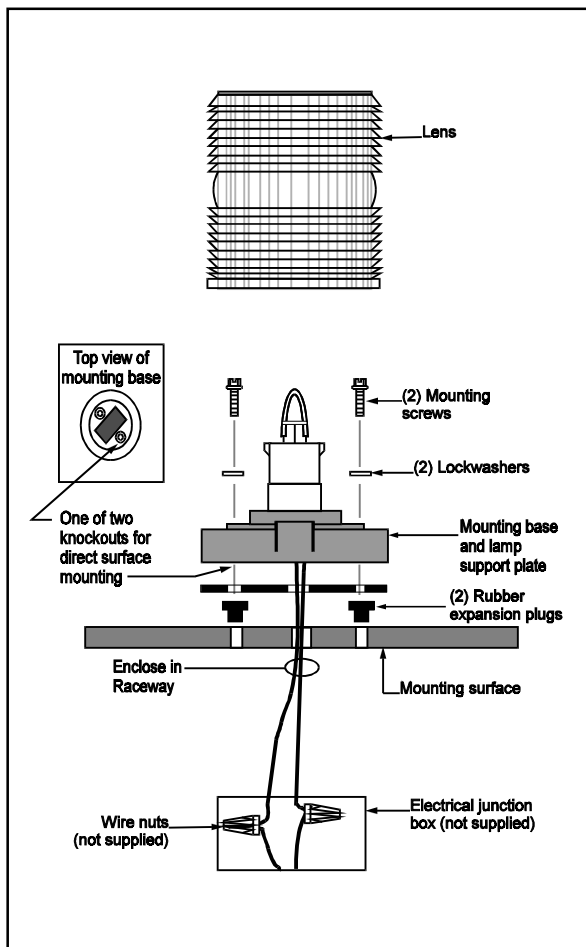

Figure 2. Direct Surface Mounting of the 98B Series Signals
2. Refer to Figure 2. Remove the two knockouts for the mounting screws from the signal base. Place the 3 3/4" (95mm) mounting gasket provided in the direct surface mounting hardware kit on the mounting surface and mark the center of the three holes in the gasket on the surface. Remove the mounting gasket and drill a 3/8" (10mm) hole at each of the marked positions.
3. Install the two rubber expansion plugs provided in the hardware kit into the two outer holes in the mounting surface as indicated in Figure 2.
5. Align the outer holes in the mounting gasket with the holes in the surface. Insert the two screws with lockwashers (provided in the hardware kit) through the two outer holes in the signal base and align the screws with the rubber expansion plugs as shown in Figure 2. Press the signal base firmly against the mounting surface and tighten the screws.